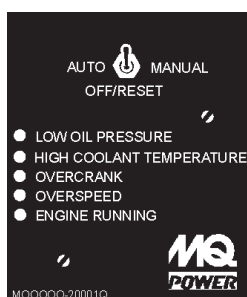

Figure 57. MPEC Engine Running Status LED (OFF)
5. Verify that the "Engine Running" status LED (Figure 57) on the Microprocessor Engine Control Module (MPEC) display is "OFF" (not lit).